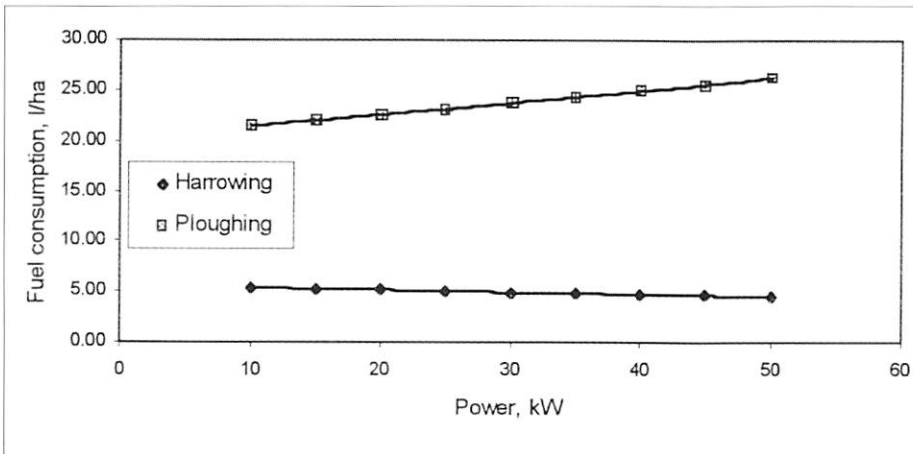

Fig. 15 Projected fuel consumption for Indian tractors in ploughing and harrowing
It may be observed from Eqns (6) and (7) that fuel consumption in ploughing per hectare increased and in harrowing it decreased, as the size of the tractor increased. Projected fuel consumption in ploughing and harrowing/cultivation are plotted in Fig. 15. More fuel consumed by the higher power tractor in ploughing is partly due to inherent engine designs.